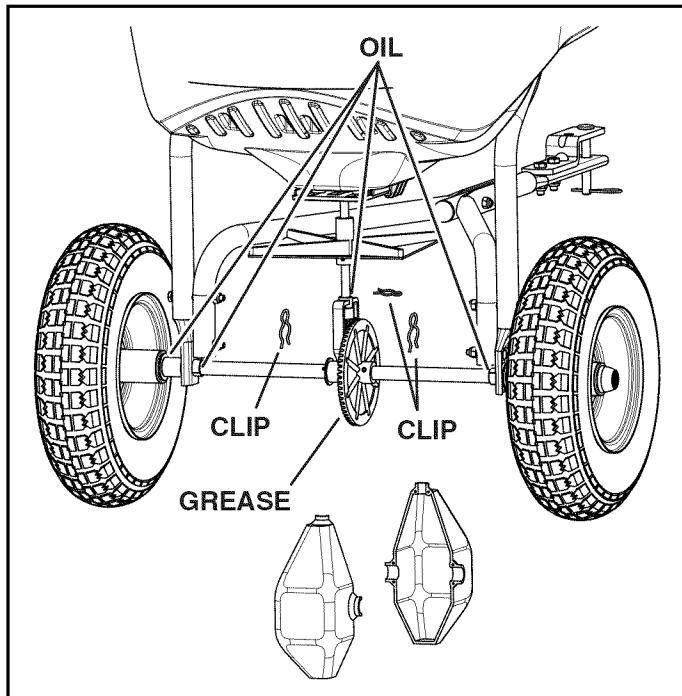

FIGURE 18
## LUBRICATE (See figure 18)
1. If the axle and gear assembly is disassembled, mark down the positions of the parts as they are removed. The drive wheel and large gear positions, in relation to the small gear, determine which direction the impeller will spin. Be sure to reassemble them in their original positions. (Refer to parts exploded view on page 18). Make sure the washers (items 18 and 31 on page 18 and 19) are in place when assembling the axle components. Add grease to gears. See figure 18.